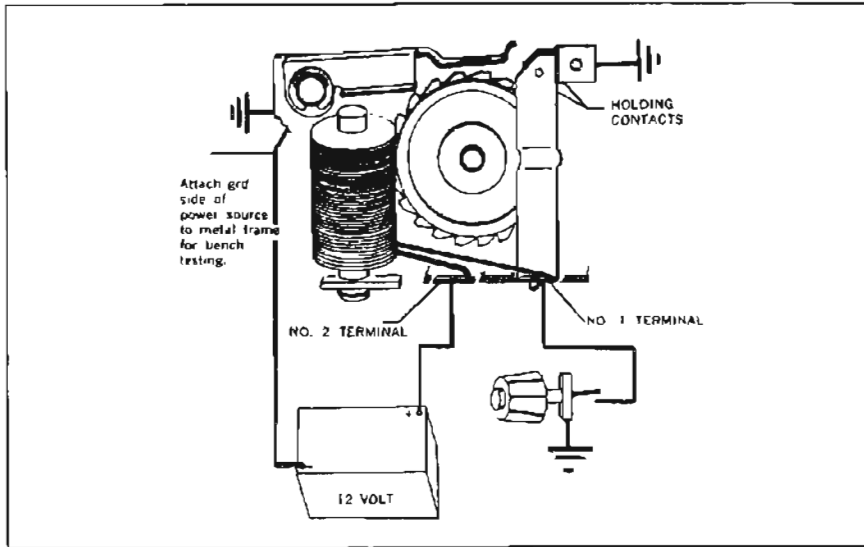

Figure 10-92—Washer Pump Wiring Diagram
Depressing the dash switch washer button closes the washer pump relay circuit to ground. (Refer to Figure 10-92). NOTE: If wiper was "off" the wiper switch is mechanically turned to the "on" position by the washer button.
1. Remove washer pump cover and connect 12 volt power supply to washer pump as shown in Figure 10-92. Connect jumper wire from terminal No. 1 to ground. Turn ratchet pawl to the position shown in Figure 10-92. Ratchet